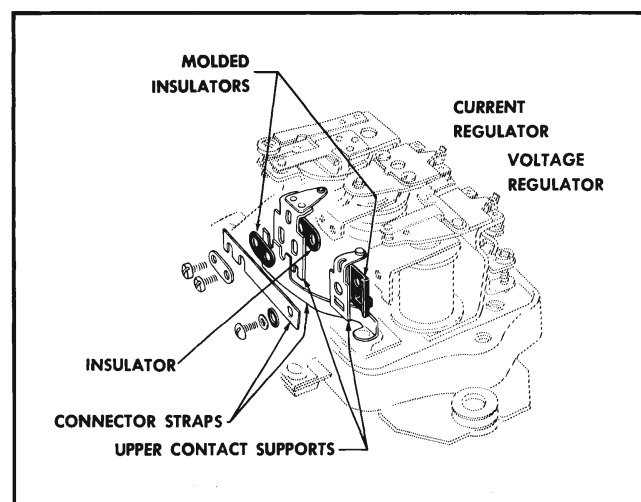

Fig. 11-46 Double Contact Voltage Regulator
1. Remove voltage regulator upper contact support (Fig. 11-46).
Install upper contact support (Fig. 11-46) and adjust as described under "Adjust Air Gaps and Point Opening". The upper contact point of the current regulator is of soft alloy and should be cleaned (after removing upper support) in the same manner as the soft alloy contact point on the voltage and current regulators for the single contact regulator.
If it is desirable to replace the contact points of the regulator, reassemble regulator as shown in Fig. 11-46.